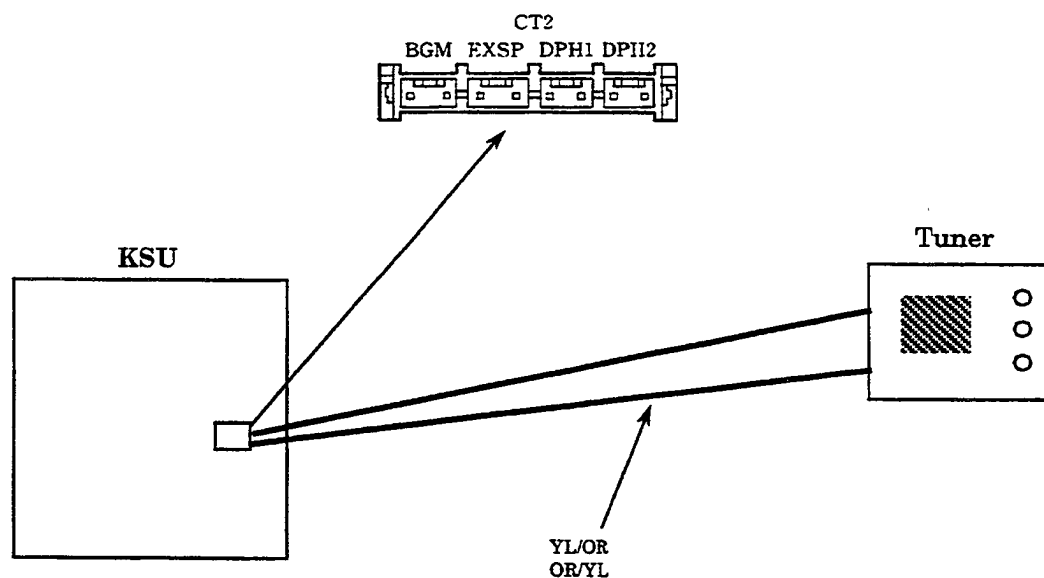

Figure 1-93 MOH/BGM Cable Shield Ground Exposed
2. Shielded cabling should be used from the MOH source to the MDF cable. The shield on the MOH cable should also be grounded. Refer to Figure 1-93 - MOH/BGM Cable Shield Ground Exposed.